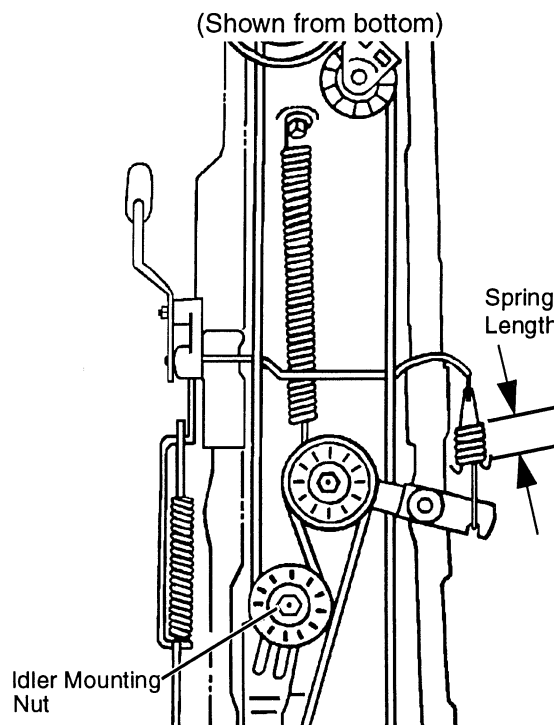

FIG. 39
- Measure clutch actuating spring length. (See Fig. 39) Measurement should be 42–45 mm (1.65–1.77 in.). Clutch actuating spring length is adjusted by sliding rear idler sheave on its slotted mounting bracket, as follows: